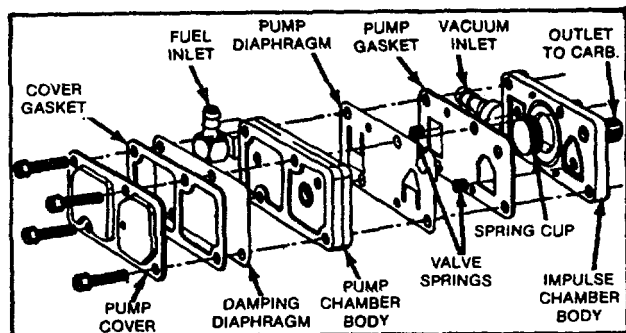

Fig. 119
Operation of the fuel pump is illustrated in Figs. 119, 120 and 121. Any restriction in the fuel or vacuum lines will affect operation. Also any leaks that cause air to get into the fuel line or reduce vacuum in the vacuum line will reduce performance.
A repair kit is available. See Illustrated Parts Lists. The kit includes all parts needed. Install chamber gasket using locator pins. Place springs in spring recesses and install pump diaphragm locator pins. Place pump chamber body on impulse body using locator pins. Place damping diaphragm and cover gasket on pump body. Install cover and four (4) screws. Torque screws to 10-15 in. lbs. (.12-.17 mkp, 1.13-1.69 Nm). See Fig. 119 for exploded view.